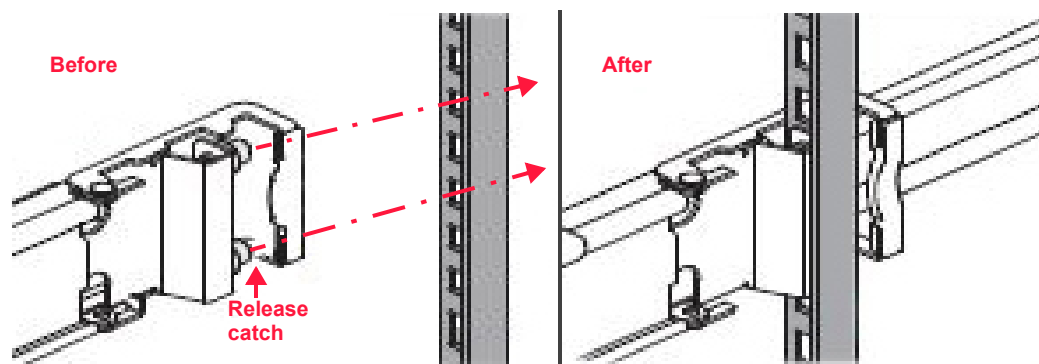

Figure 4.16 Installing the left rear bracket
1. Align the left rear bracket mounting screws with the appropriate left rear rack post holes as shown in the “Before” image of Figure 4.16.
2. Press and hold the release catch identified in the “Before” image of Figure 4.16 and push the bracket into place so that the mounting screws install securely into the rack post holes.
3. Once the screws are fully inserted, release the catch to secure the rail to the post. Refer to the “After” image in Figure 4.16 on page 40 for an illustration of a properly installed left rear cabinet member bracket.